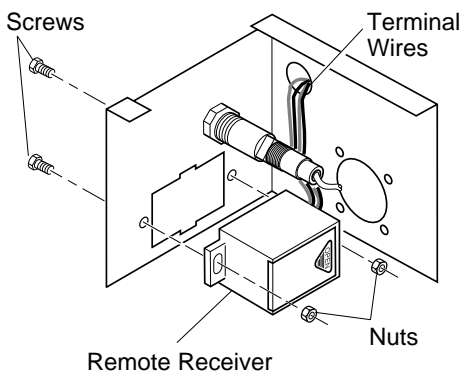
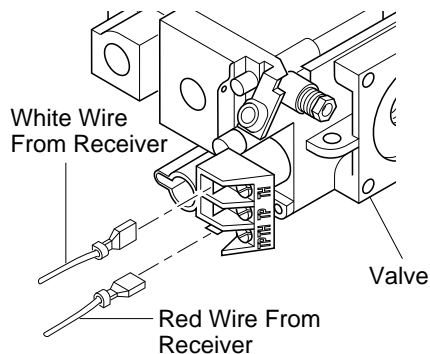

Figure 28 - Installing Remote Receiver
Figure 29 - Connecting Wires
4. Install remote receiver unit onto remote switch bracket using screws and nuts removed in step 2. See Figure 28
5. Route wires through hole in the upper portion of the switch plate (Figure 28). Connect wires as shown in Figure 29. (Black and blue wires are not used for this application.)